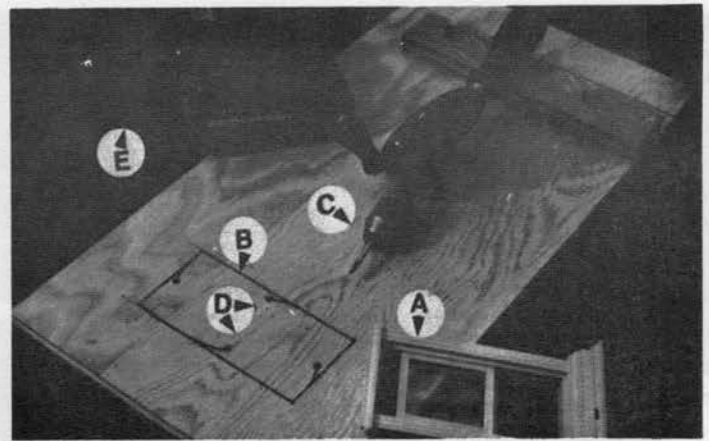

Fig. 5
When cutting inside cuts such as an opening for window, (A), as in (**FIGURE 5**), mark the opening (B), drill pilot holes (D) with hand drill (C). Insert saw blade (E) into pilot hole-saw a curved entry into reverse and re-enter the slot and saw to the opposite corner. (Note) never withdraw or re-enter the blade with the saw running.